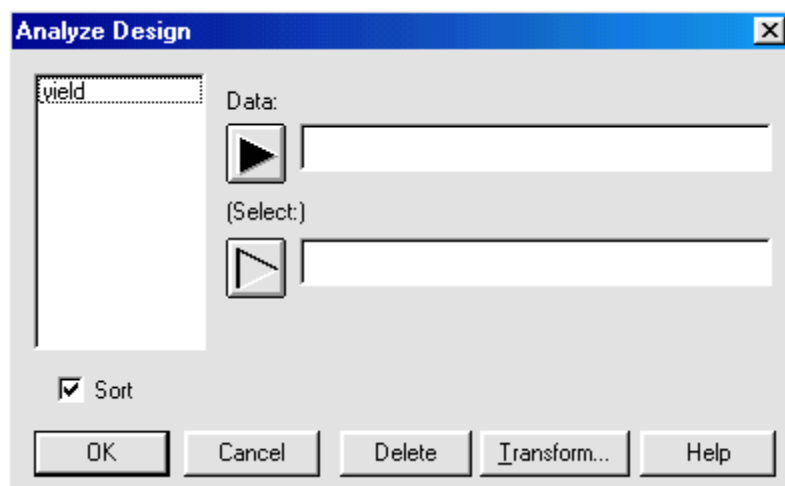

Figure 1-4. *Analyze Design Dialog Box*
1. Choose SPECIAL... EXPERIMENTAL DESIGN... ANALYZE DESIGN... from the Menu bar to display the Analyze Design dialog box shown in Figure 1-4.